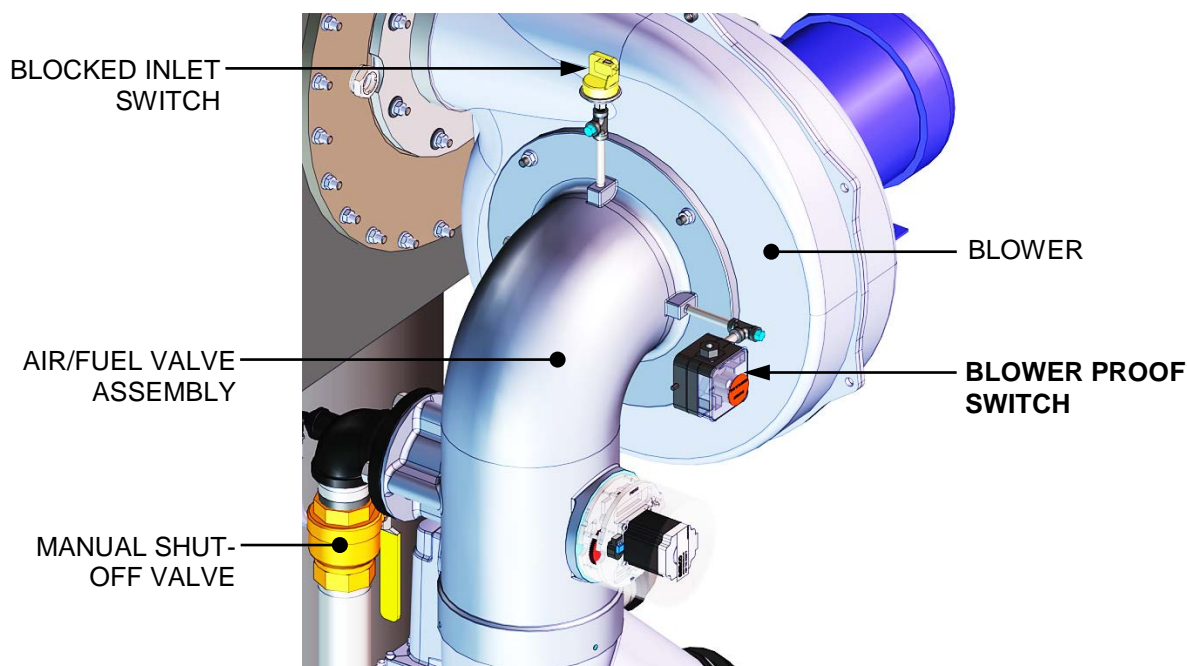

Figure 3-5: Blower Proof Switch
4. Next, the blower proof switch on the Air/Fuel Valve (Figure 3-5) closes. The display will show *Purging* and indicate the elapsed time of the purge cycle in seconds.